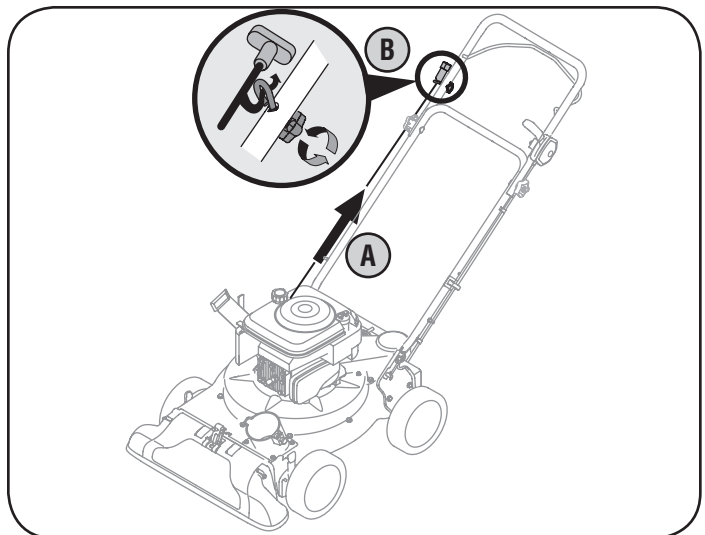

Figure 4
- a. Pull the starter rope out of the engine slowly. See Figure 4.
- b. Slip the starter rope into the rope guide. Tighten the wing nut. See Figure 4.